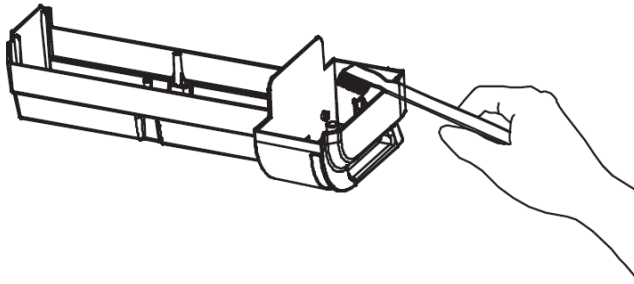

Fig 21
- 1) Take out the water channel, remove the humidify filter. Soft brush can be used to clear the inside part. (Fig 21)